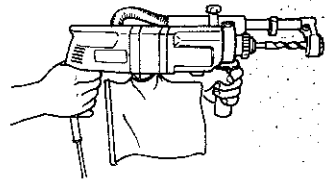

Fig. 7
- (1) Mount the drill bit.
- (2) Pull the trigger switch after applying the drill bit tip to the drilling position. (Fig. 7).
- (3) Pushing the rotary hammer forcibly is not necessary at all. Pushing slightly so that drill dust comes out gradually is just sufficient.
- When the drill bit touches construction iron bar, the bit will stop immediately and the rotary hammer will react to revolve. Therefore please grip the side handle and handle tightly as shown in Fig. 7.